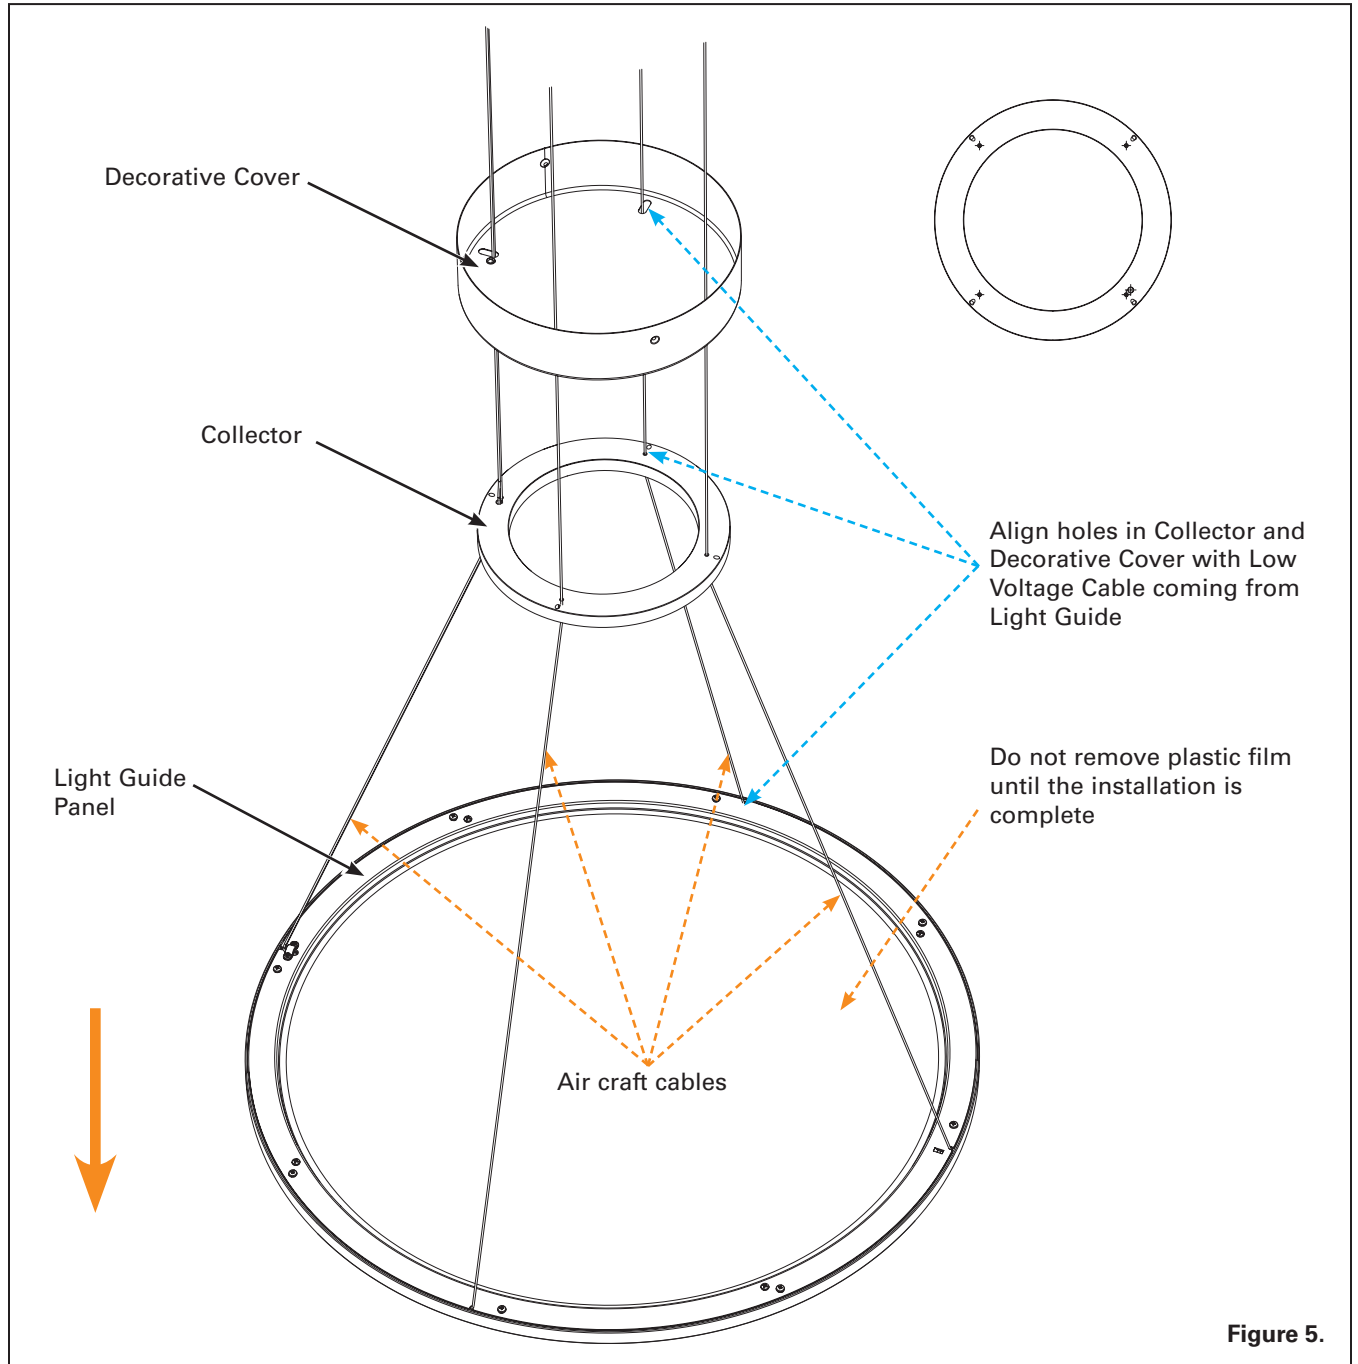

Figure 5.
Step 3 Take the four Air Craft Cables and Low Voltage Cables and feed them all the way through the Collector and Decorative Cover. Make sure to orientate the Collector and Decorative Cover so the Low Voltage Cable feeds through the correct features in the parts. The Low Voltage Cable will also need to orientate with the hole in the Driver Compartment Cover in the ceiling. Figure 5
Step 4. Rest the Collector and Decorative Cover on the Light Guide Assembly (Do not remove protective film until installation is complete.) Figure 5